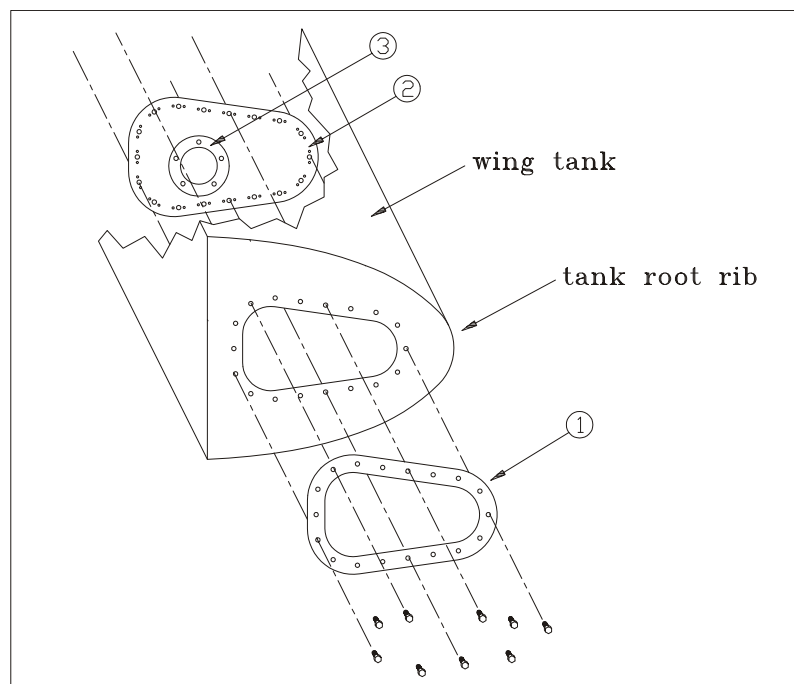

Figure 5 *Inspection Door Removal/Installation*
- 2 Disconnect the ground bonding leads and if necessary (LH wing tank) the electrical wiring of the lever-type tank unit (3, Figure 5).
- 4 Remove the inspection door flange (1).
- 5 Push the inspection door (2) into the tank, then turn and remove.